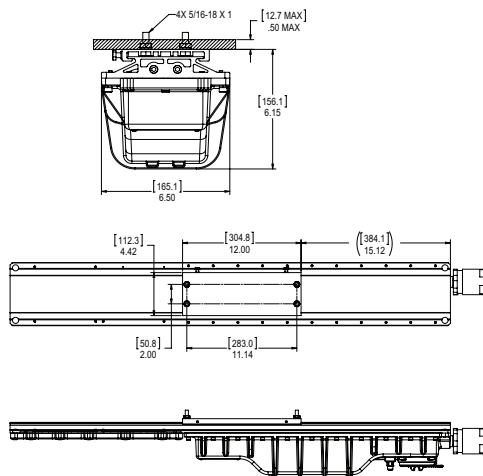

Figure 2. ZP1057MTK Back Mount Installation
- For back mount, use the bracket as a template, mark and drill holes into the mounting surface and use supplied 5/16" bolts (see Figure 2).
- It is strongly suggested to use two (2) qualified tradespeople to proceed with the final mounting of the fixture. This is recommended to avoid any personal injury or damage to the fixture.
- Place the four (4) 5/16" bolts through the mounting plate and tighten evenly to the support structure. Minimum torque 138 in.-lbs. (15.6 N-m).
- Slide the fixture into the mount bracket, engaging the flange on the top of the fixture and position it near the center. For final positioning, adjust approximately as shown in Figure 2.
- Tighten the four (4) 1/4" set screws on the slide bracket until they bottom. Torque to 78 in.-lbs. (8.8 N-m).